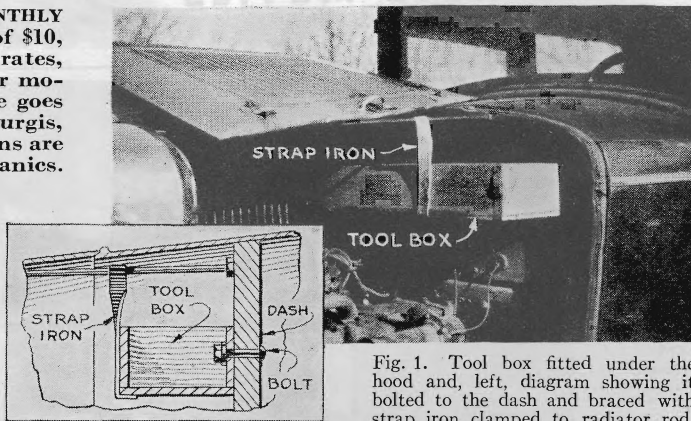

Fig. 1. Tool box fitted under the hood and, left, diagram showing it bolted to the dash and braced with strap iron clamped to radiator rod.
**M**ANY different types of special auto tool boxes have been described in POPULAR SCIENCE MONTHLY. Here are two more. In Fig. 1 is shown a tool box to be fitted under the hood. Modern cars with powerful and compact engines under high hoods make such a tool box possible. In many cars, a still larger tool box would be possible. It should be firmly bolted to the dash and braced with a piece of strap iron clamped to the horizontal rod that keeps the top of the radiator in position.